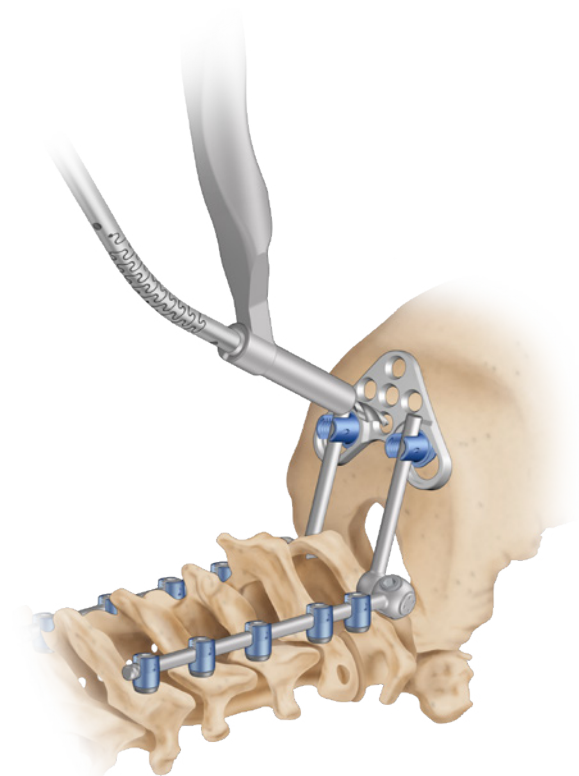

Figure 104
Select the appropriate Drill-Tap (DT) Guide based on the desired drilling depth. The DT Guides are available with fixed drilling depths from 6mm to 14mm in 2mm increments. Both the Straight and Flexible Drill Bits must be used in conjunction with the DT Guide to achieve a fixed drilling depth (Figure 54). When the flexible drill bit is used, the DT Guide will help stabilize the flexible shaft and direct the drill bit in the proper position. Using the DT Guide to align the drill hole in the Occipital Adjustable Plate, insert the Flexible Drill Bit (G3600321) through the DT Guide, and drill to the desired depth (Figure 104). Drilling must be done through the Occipital Adjustable Plate to ensure proper drilling depth.